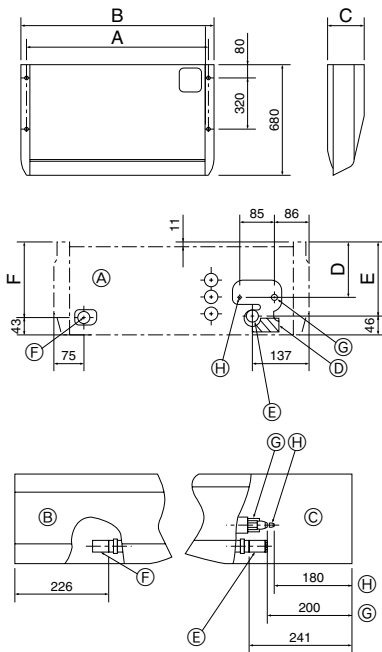

Fig. 3-2
①	Washer	4 pcs
②	Pipe cover	1 pc Large size (For gas tubing)
③	Pipe cover	1 pc Small size (For liquid tubing)
④	Band	4 pcs
⑤	Joint socket	1 pc Marked with "UNIT"
⑥	Socket cover	1 pc
⑦	Drain tubing cover	1 pc
3.2. Preparation for installation (Fig. 3-2)